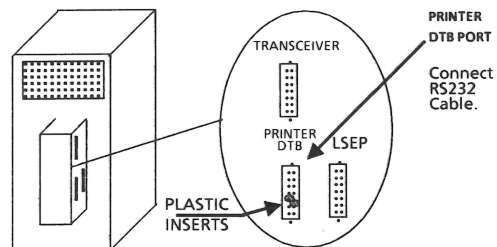

Figure 2-19 Remove Plastic Inserts from DTB Port
- c. Remove any plastic inserts installed in the PRINTER DTB port by cutting off the flared heads. (Figure 2-19)
- e. Connect one end of the RS232 cable to the port named PRINTER DTB. (Figure 2-19)
### P32 INSTALLATION FIGURE 2-19